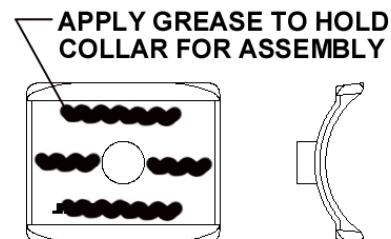

FIGURE 3
4. Apply grease to the top surface of the pivot bracket collars (item 4) as shown in figure 3.
5. Install pivot collars (item 4) into the pivot pockets of the fifth wheel topplate.